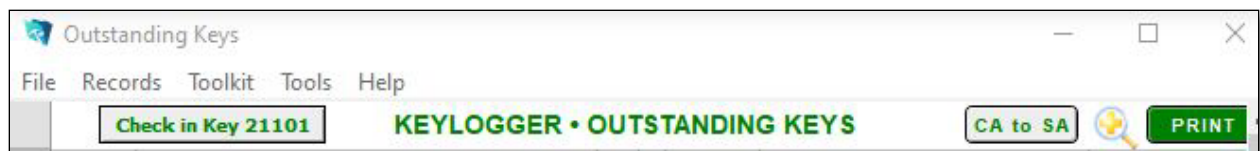

Figure 10
- In the event a key is logged out and the incorrect access mode was selected (Controlled Access instead of Supervised Access for example) the mode can be changed by clicking the key that was issued in the "Outstanding Keys" table, and then clicking the "CA to SA" button (*Figure 10*). Once all the keys for an enclosure are returned, the access type is changed to CA automatically.